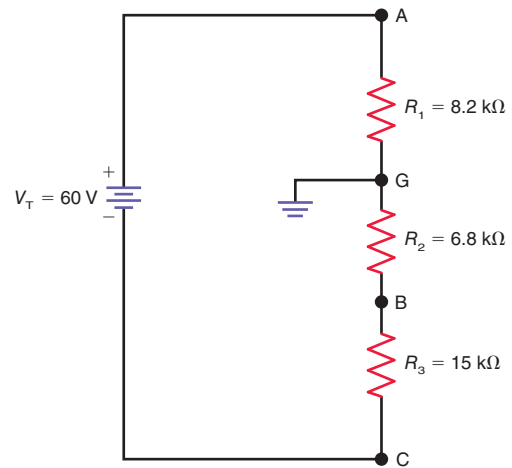

Figure 5-37
5.34 In Fig. 5-37, solve for V_{AG} , V_{BG} , and V_{CG} .